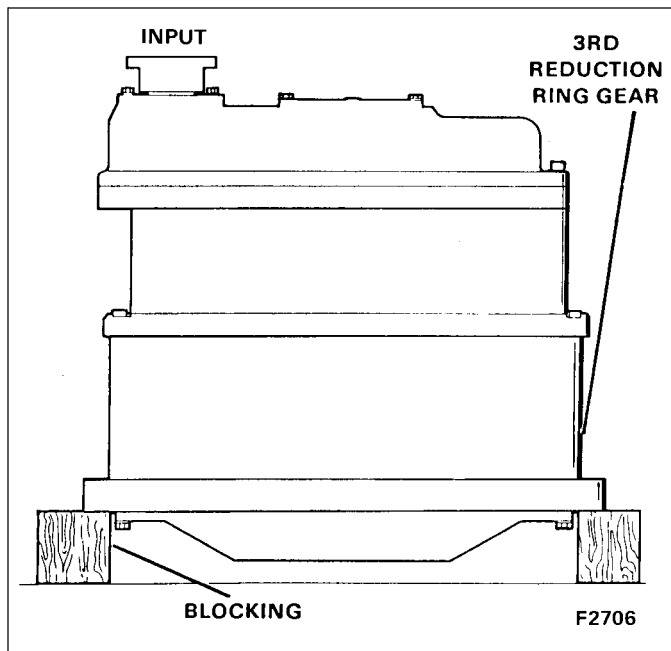

Figure 7-12. Blocking the Transmission
Failure to support the propel transmission assembly properly after removal from the crawler frame could result in damage to the bearings. Support the propel transmission with blocking under the lip of the third reduction ring gear (see Figure 7-12).
14. Remove the transmission from the crawler side frame and place it on blocking with the input segment facing up as shown in Figure 7-12.